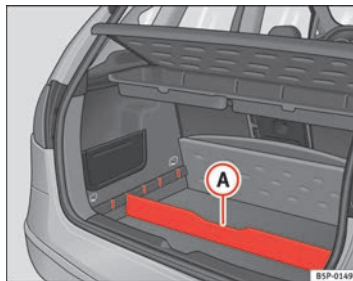

Fig. 107 Luggage compartment divider
- Fit the separator **(A)** ⇒ fig. 107, into the side grooves depending on the size of the objects to be transported. The on-board tool kit and the spare wheel are located underneath the luggage compartment.